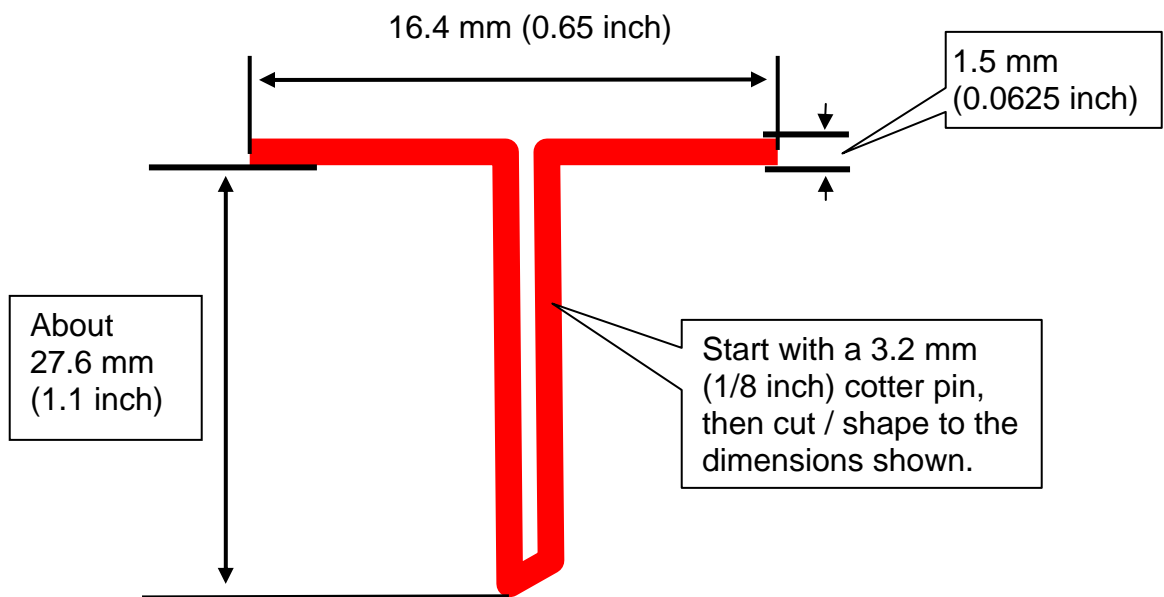

Figure 58
a. Use a 3.2 mm (1/8 inch) cotter pin to shape a special tool as shown in Figure 58: